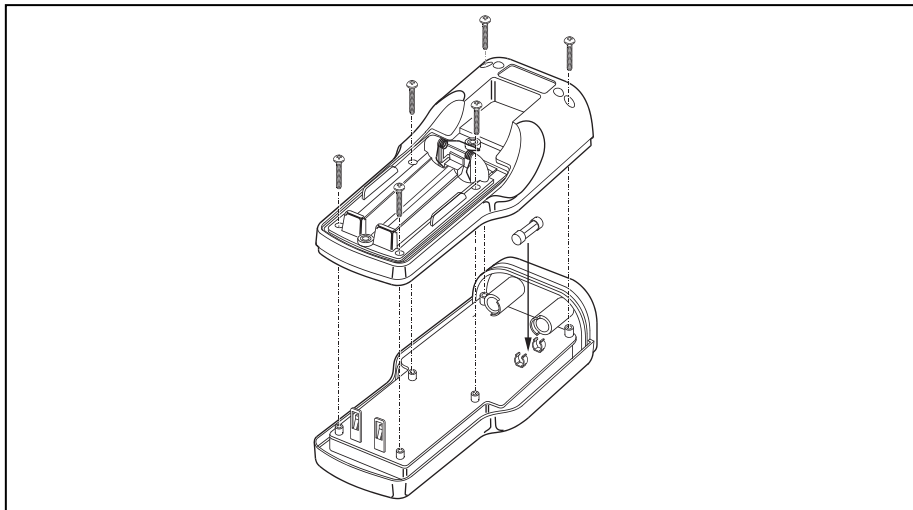

Figure 6. Replacing the Fuse
4. Unscrew the bottom cover as shown in Figure 6.
5. Remove the fuse as shown in Figure 6.